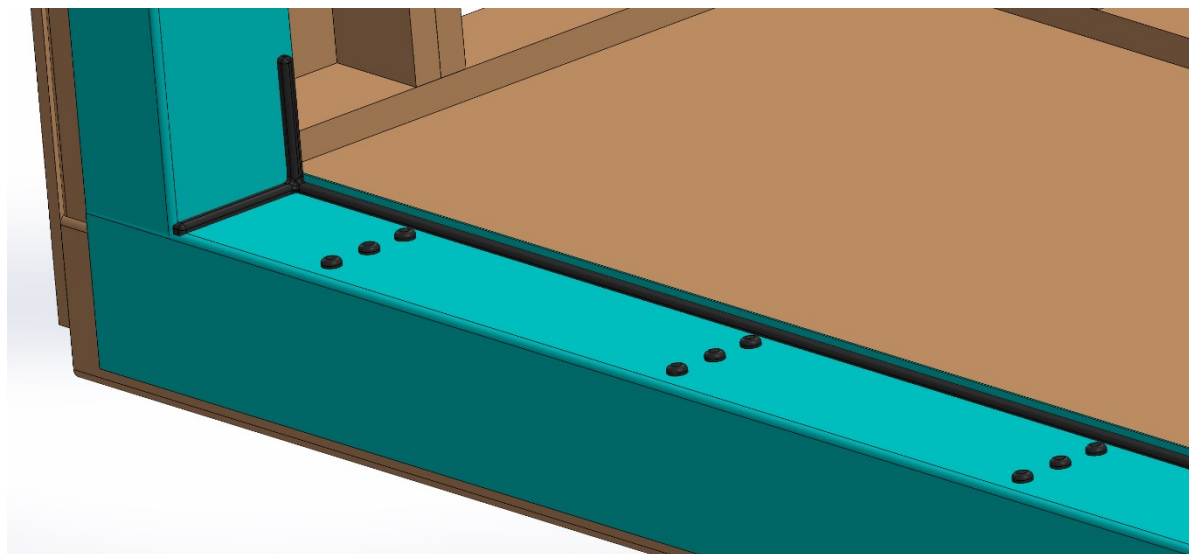

Figure 10
16. With the sill assembly removed, and clean from debris, apply a 1/2" bead of sealant to the floor from jamb to jamb along the exterior edge of the mark previously applied to the floor. The sealant should be applied in a U-shape to ensure a proper and complete water-barrier has been accomplished across the full width of the sill opening. Sealant should also be applied a minimum of 6" up each side of the opening to which the jambs, end plates, or post-interlockers will need to be sealed. (See Figure 10).